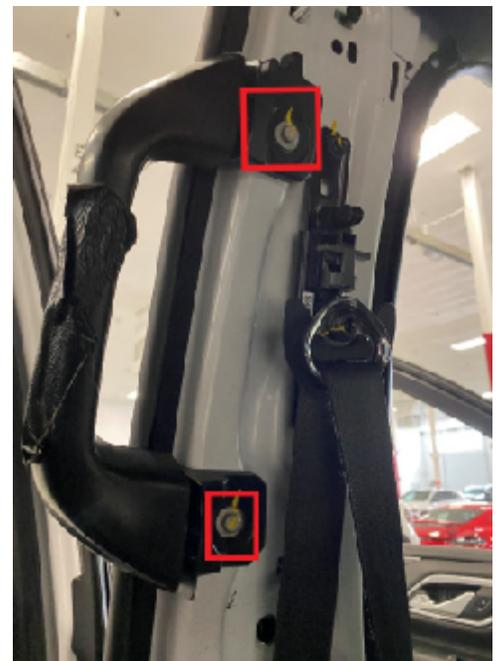

Fig.3
4) Remove B-Pillar Plastic trims on both sides (Fig 3.) Using 10mm socket, remove the OEM grab handle.